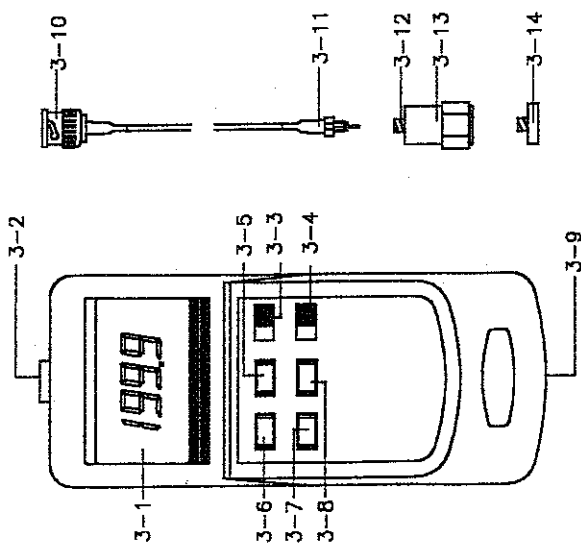
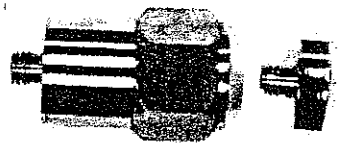
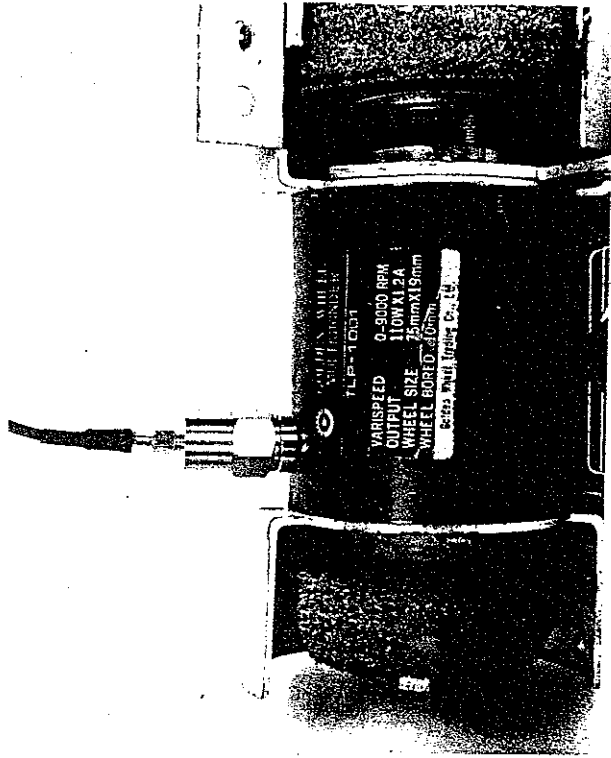

Fig. 1
Fig. 3
Fig. 4
- 1) Plug in the " BNC plug of cable " (3-10, Fig. 1) to the " BNC socket of meter " (3-2, Fig. 1).
- 2) Plug in the " Mini plug of cable " (3-11, Fig. 1) to the " Input socket of vibration sensor " (3-12, Fig. 1).
- 3) For the acceleration measurement, select the " Acceleration/Velocity switch " (3-4, Fig. 1) to the " ACC. " position.
For the velocity measurement, select the " Acceleration/Velocity switch " (3-4, Fig. 1) to the " VEL. " position.
- 4) Select the " RMS/PEAK switch " (3-3, Fig. 1) to the " RMS " position.
- 5) Power on the meter by pushing the " Power button " (3-6, Fig. 1) once.
8) If the surface material of measuring article is the ferrous material, connect "Vibration sensor" (3-13, Fig. 1) with the "Magnetic base" (3-14, Fig. 1), refer to Fig. 3, page 6. Put the whole unit (Vibration sensor & Magnetic base) to the surface of measuring article, refer to Fig. 4, page 7
Before the measurement if select the " RMS/PEAK switch " (3-3, Fig. 1) to the " PEAK " position. Then during the measurement, the display will display the peak value.
During the measurement, push the " Data Hold button " (3-5, Fig. 1) will hold the measured value & the LCD will indicate " D.H. " symbol. Push the " Data hold button " again to release the data hold function.
* The DATA RECORD function displays the maximum, minimum and average readings. To start the DATA RECORD function, press the " RECORD Button " (3-7, Fig. 1) once. " REC " symbol will appear on the LCD display.
- (a) Push the " RECALL button " (3-8, Fig. 1) once, the " Max " symbol along with the maximum value will appear on the display.
During the measurement, push the " Record Button " (3-7, Fig. 1) to execute the memory record function.
- 2) Loose the screw from the battery cover, then open the " Battery Cover " (3-9, Fig. 1) away from the instrument and remove the battery.